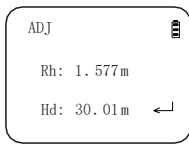
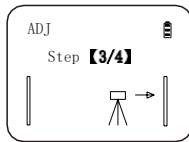

Fig 26
Fig 27
- B and measure it. After data showed up as figure26, press SET to the next step (Figure 27).